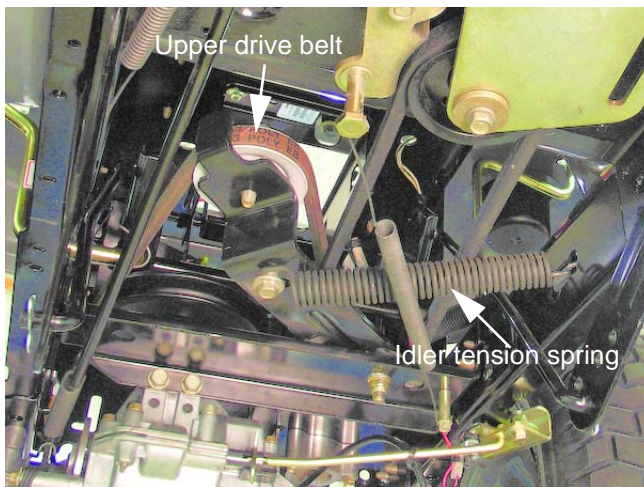

Figure 5.47
4. Remove upper (rear) drive belt: See Figure 5.47.